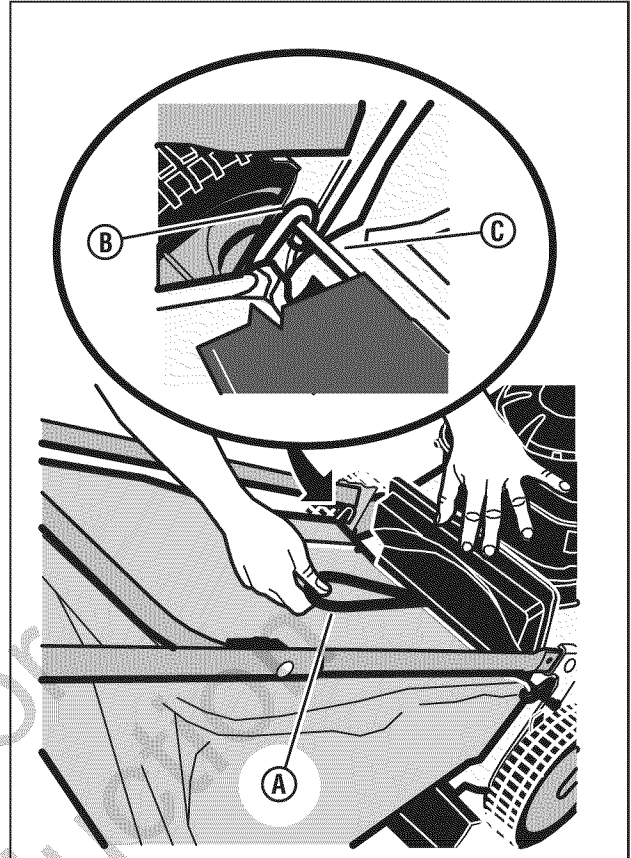

Figure 10: Installing the grass bag
3. Holding the grass bag handle (A, Figure 10), install the grass bag onto the mower, making sure that the grass bag hooks (B) are hooked onto the rear door pivot rod (C).